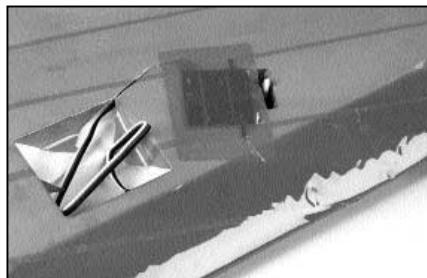

fig. 8
□6. Cut slots in the wing 5mm deep to conceal all wiring (see fig. 8).
- ❑ 9. With the supplied tape over-cover all the R/C installation including the servo wires leaving a small space for the servo horns and the on/off function (see fig. 8 & 10).